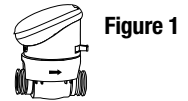

Figure 1
Your 7001 controller has a 3/4" inlet and outlet with female pipe thread and can be installed in line directly to 3/4" PVC male pipe thread fittings as part of your sprinkler's valve manifold or as a stand-alone unit. (Fig. 1)
2. Install a 3/4" ball or gate valve to a PVC pipe or to the valve manifold before installing the controller (Figure 1).
4. Install the controller wrapping Teflon tape on all male thread fittings (Figure 1).